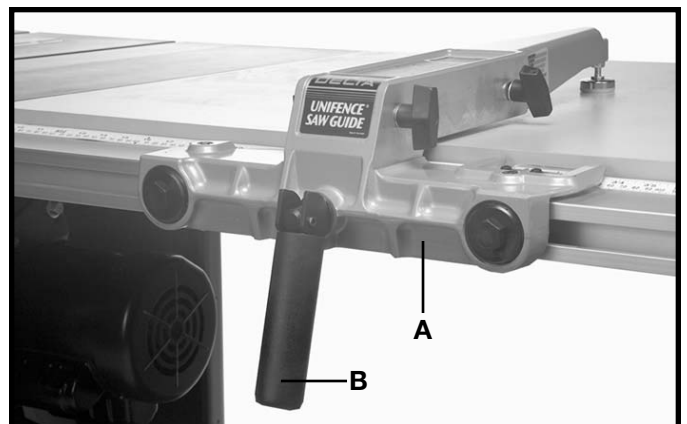

Fig. 69
4. Lock fence body (A) to the guide rail by pushing down on handle (B) as shown in Fig. 69.